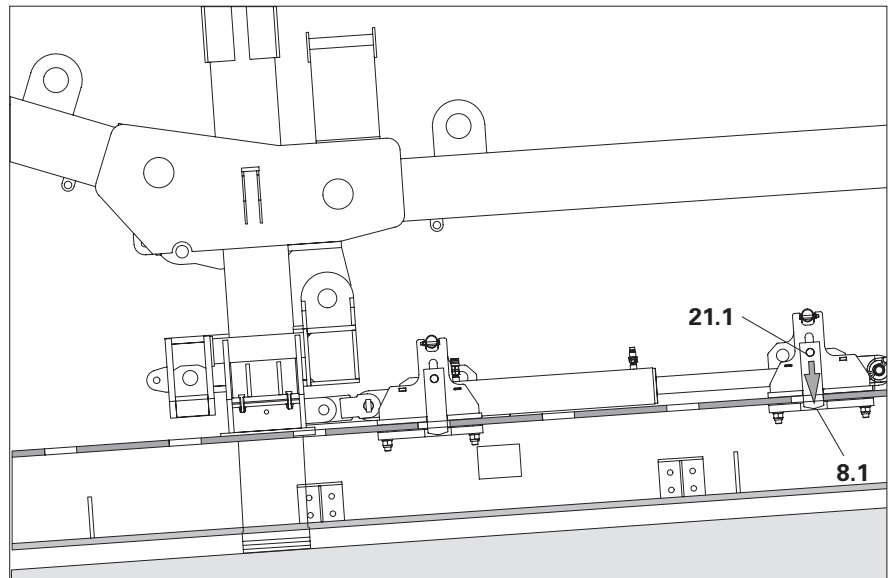

Fig. C2.06
- 3. Stop the drive cylinder from extending any further. (Fig. C2.06)